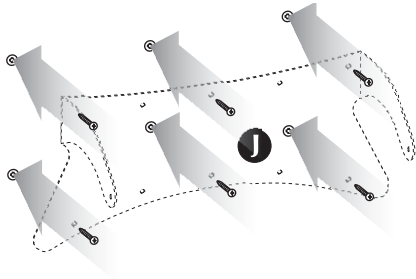

Figure 13. Attach the stand to the wall.
- 11 With the help of an assistant, place the center part of the stand against the wall and attach it using the (6) 1" Phillips head screws. Tighten the screws but be very careful not to over tighten them and strip out the wall or wall anchors (figure 13, step J).